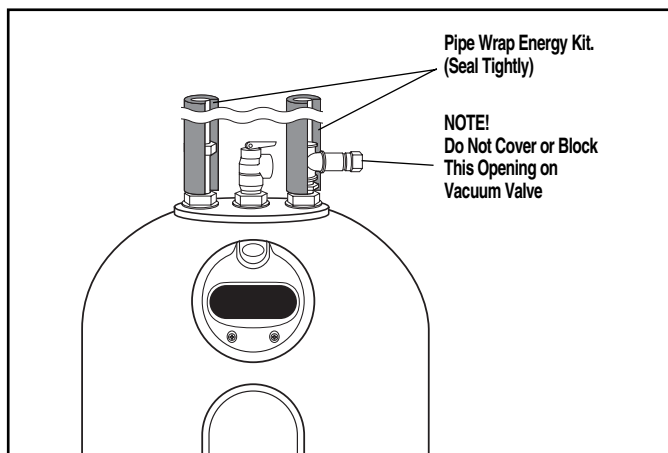

Figure 9 — Pipe Wrap Energy Kit
8. PIPE WRAP ENERGY KIT — A pipe wrap energy saving kit consisting of two lengths of foam insulation is included with this water heater. To realize maximum energy savings, all exposed pipes should be insulated. However, most of the energy losses occur close to the water heater. This kit is designed to minimize this loss. Install one piece of insulation on the cold water supply line and the other piece on the hot water line. (Refer to Figure 9). Install the pipe wrap as close to the water heater as the installation allows. Make sure fittings are covered and the joint in the pipe wrap is sealed.